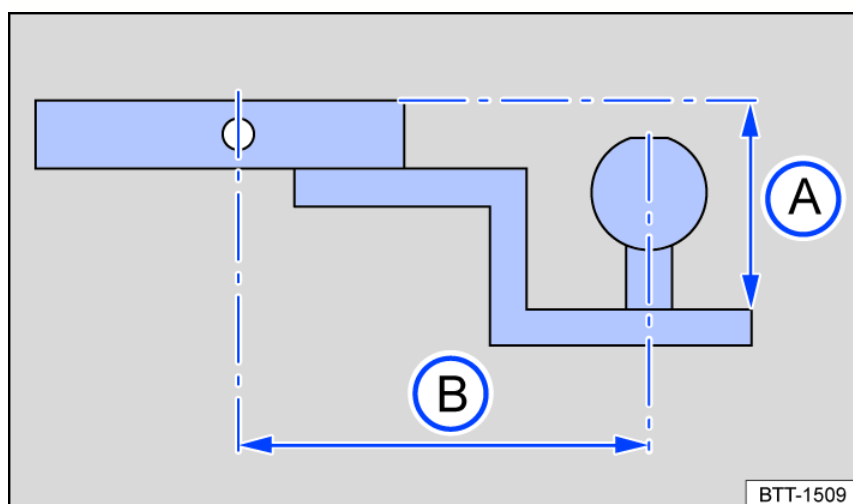

Fig. 146 Dimensions of the ball mount holder and receptacle.
The mount requires a special shape and size of ball mount holder and ball mount. This affects both the suspended height of the ball coupling fig. 146 A and the distance between the socket pin and the ball coupling fig. 146 B.
- The drop height fig. 146 A from the top edge of the ball mount to the top edge of the neck must not exceed 40.6 mm (1 ³⁹/₆₄ inches).
- The distance between the socket pin and the ball mount fig. 146 B must not exceed 157.5 mm (6 ¹³/₆₄ inches) from the middle of the ball mount to the middle of the eye of the pin.